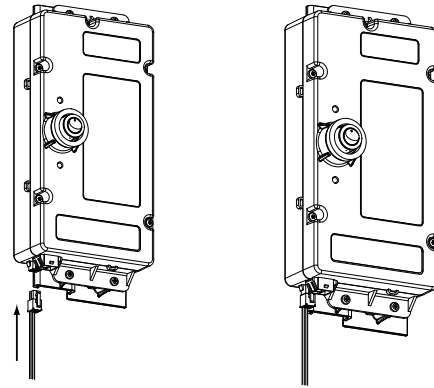
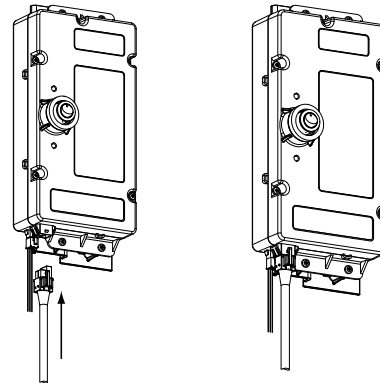

Fig. 7 - Airflow Sensor Cable Installed
Fig. 8 - Power Cord Installed
- c. Connect the power cord and the airflow sensor cord to the power supply connector and the airflow sensor connector (see Fig. 7 and Fig. 8).
Step 4 — Unplug the power cord and airflow sensor cable (if connected) from the enhancement module 9 (See Fig. 7 and 8)